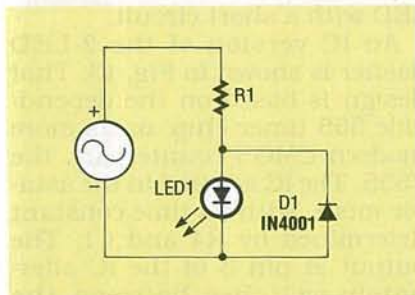

FIG. 4—AN LED USED IN AN AC circuit; D1 is wired in inverse parallel to prevent the LED from being reverse biased.
A parts-placement diagram is shown in Fig. 4. Mounting the two IC's first gives a good reference for the rest of the component mounting. Double check the polarity of each IC before soldering, and note that pin 1 goes on the square pad on the PCB board. (Incidentally, the other square pads indicate jumpers (J) external leads.) It is suggested that you use IC sockets for both IC's, especially for the 28-pin chip.
An LED can be used as an indicator in an AC circuit by wiring a diode in inverse parallel with it, as shown in Fig. 4. The diode prevents the LED from becoming reverse biased on the negative half of the sine wave cycle. For a given brightness, the line dropping resistance value in an AC circuit should be one half that used in a DC circuit. When an LED is used in an AC circuit, the forward current conducted through the LED only during the positive half of the sine wave cycle, after the LED has reached its threshold voltage of about 2 volts. Therefore, the LED conducts current less than one half the time in an AC circuit as it does in a DC circuit. In order to achieve the same average current through the LED with an AC supply, approximately twice as much current must flow so the resistance value must be reduced one half.